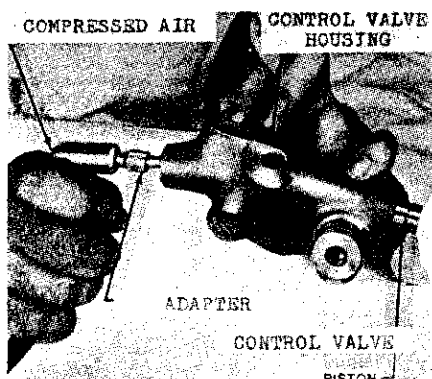

Fig. 360—Removing control valve from housing with air pressure.
(41). Be careful not to lose any adjustment shims from the hollow control valve spool. If valve spool will not readily slide from housing, close the exhaust ports and one of the pressure ports with fingers and apply compressed air to other pressure port as shown in Fig. 360.